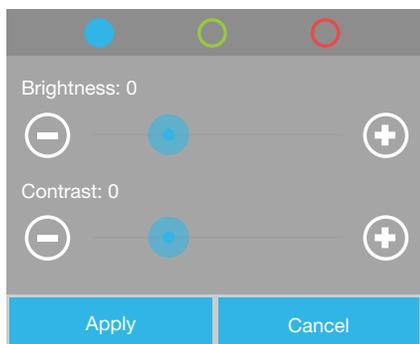

Fig. 16. Edit dialog window in Merge mode.
**Edit** — tap the color for which you wish to adjust brightness and contrast. Drag the slider bar or tap the + and – controls for fine adjustments (Figure 16).